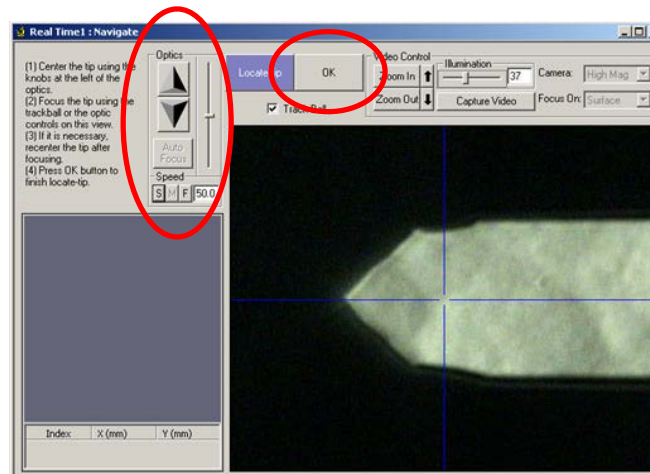

Figure 10. Nanoscope Realtime Navigate's "Focus Surface (top panel) and "Locate Tip" (bottom panel) viewing screens and controls.
- c) The sample is now secured in place, and the stage can be rotated to position the sample under the AFM probe and head. If needed to ensure sample clearance, the probe tip height can be increased using the Z motor, Figure 10.
- a) Click on the Navigate icon to open the corresponding window (Figure 10).
- b) Click the Locate Tip button (Figure 10, upper panel). The cantilever and tip should now be visible in the viewing screen.
- c) After the tip and cantilever are located (Figure 10, lower panel), center the tip on the crosshairs using the optics adjustment screws located on the left of the camera (Figure 1). Focus the optics on the tip using the Optics Up/Down arrows in the software (Figure 10, lower panel).
- d) When done, select OK (Figure 10, lower panel).
- e) Next click "Focus Surface" and move the Z motor (Figure 10, upper panel) until the surface is in focus.
- f) Use the XY Stage direction arrows (Figure 10, upper panel) to move the sample around until the area you want to scan is visible beneath the crosshairs.